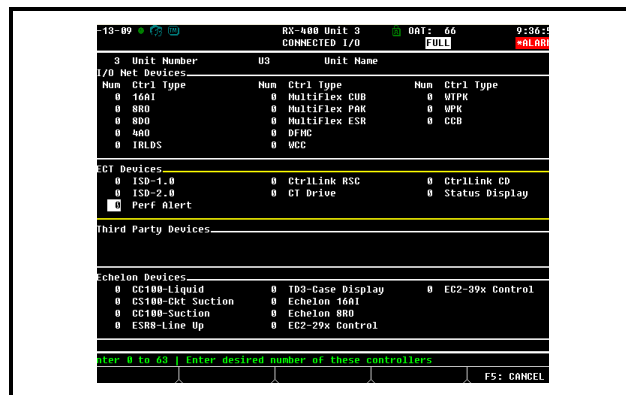

Figure 5-1 - Add PerformanceAlert Devices
3. Press  to navigate to the Connected I/O screen (*Figure 5-1*).